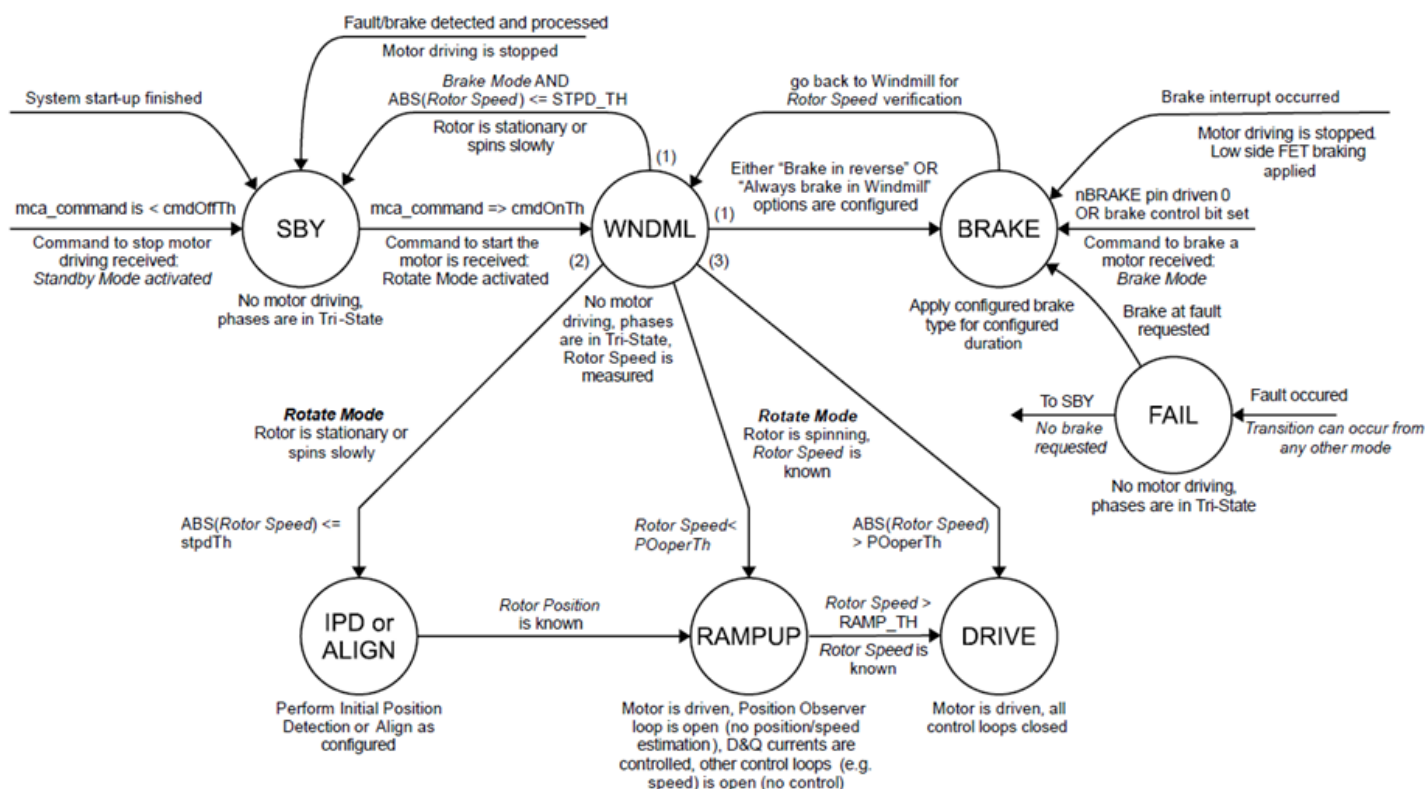

Figure 11: MCA FSM States
The distinct states of the MCA FSM are shown in Figure 11:
- After the internal initialization is complete and once a command to run the motor is received, the A89333 transitions to the windmill check state (WNDML) to determine the initial status of motor movement and then start to drive the motor as shown in Figure 11.